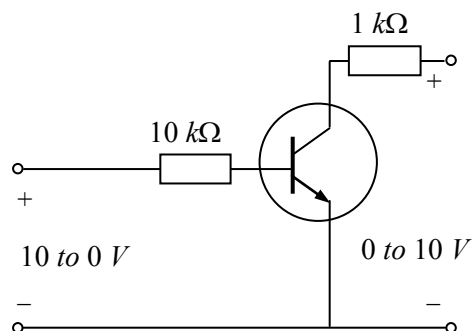

Fig. 2.42
**Transistor switches.** Transistorized base bias is usually designed to operate in switching circuits by having either low output voltage or high output voltage. For this reason, variations in operating point do not matter, because the transistor remains in saturation or cutoff when the current gain changes. In Fig. 2.42, the transistor is in hard saturation when the output voltage is approximately zero. This means the  $Q$  point is at the upper end of the load line.